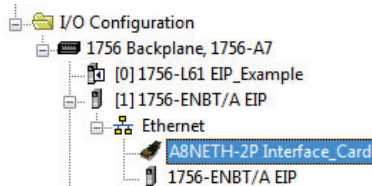

Figure 38: AOP Interface Card I/O Configuration
- 14) You should now see the interface card in the 1756-ENBT/A branch under the I/O Configuration in the controller organizer view. The full I/O Configuration tree should appear similar to Figure 38.